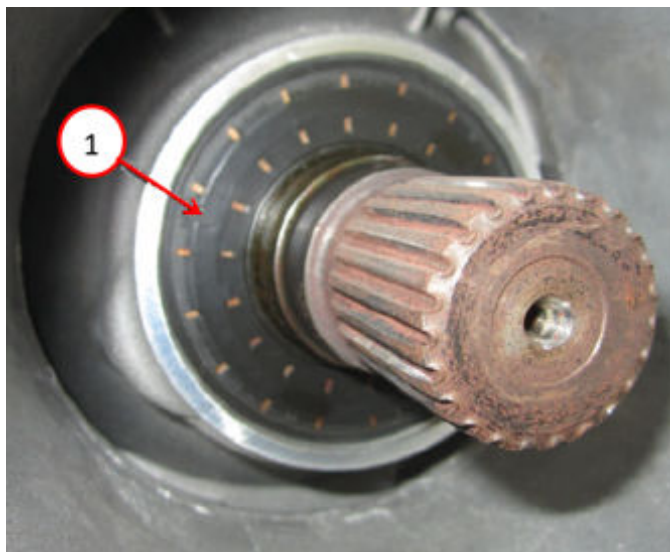

Fig. 50
78. Position the new output shaft seal over the output shaft and against the transmission case Fig. 50.